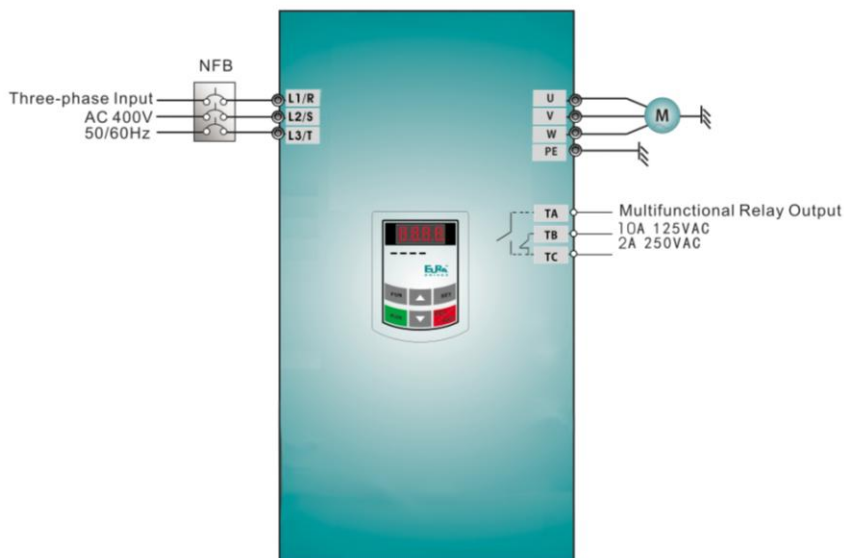

Figure 4-1 Wiring Diagram 1
- (1) Connect the wires in accordance with Figure 4-1. After having checked the wiring successfully, switch on the air switch, and power on the inverter.
- (2) Press the “Fun” key, to enter the programming menu.
- (3) Measure the parameters of the motor
- (1) Connect the wires in accordance with Figure 4-1. After having checked the wiring successfully, switch on the air switch, and power on the inverter;
- (3) Study the parameters of the motor: the operation process is the same as that of example 1.
- (4) Set functional parameters of the inverter: